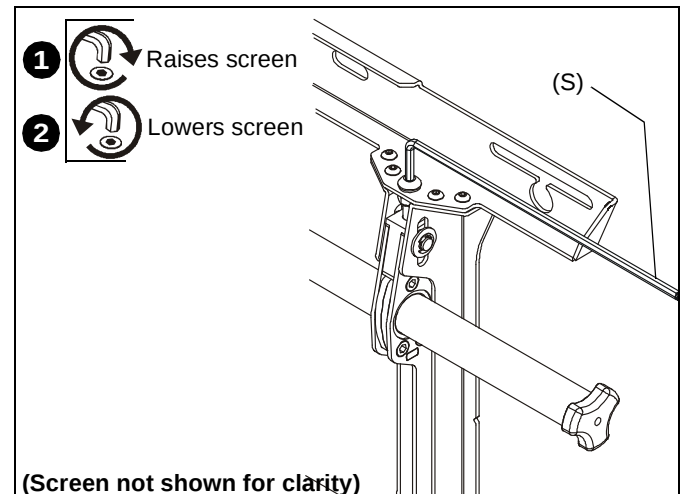

Figure 12
1. Turn to right (tighten) to raise side of screen. (See Figure 12)